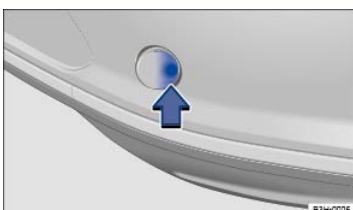

Fig. 170 In the right rear bumper: Removing the cover.
- Push on the cover at the marking on the right side ⇒ Fig. 170 (arrow) so that it pops out.